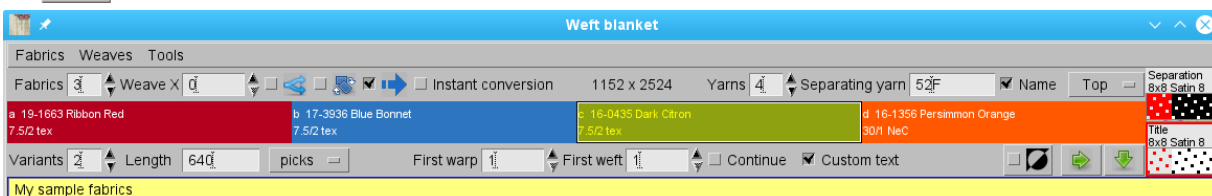

Figure 273: General settings and the fabric specific settings in the Weft blanket editor
- In the **Yarns** field, enter the number of yarns, that you will use in the blanket. We use 4 different weft yarns in the blanket in Figure 273.